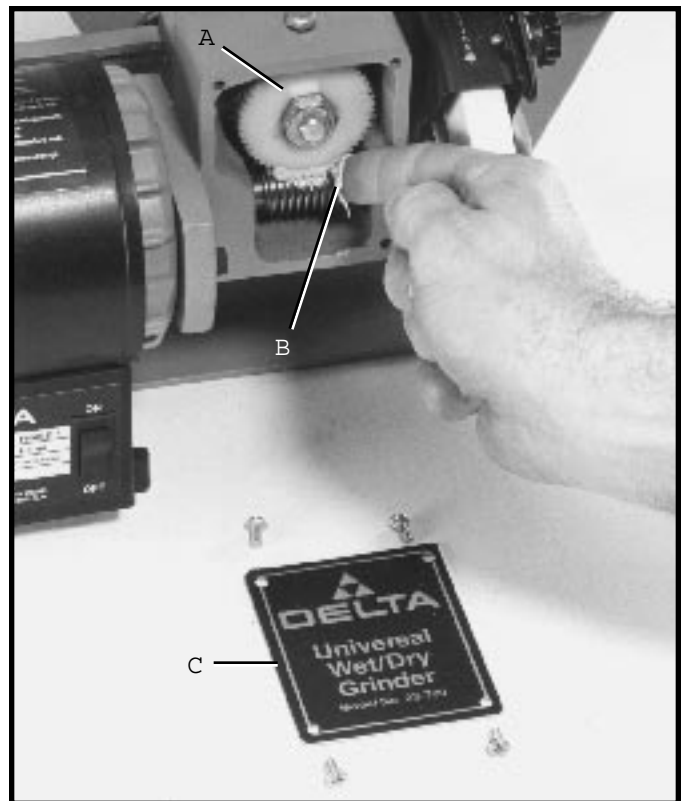

Fig. 23
To lubricate the worm gears (A) and (B) Fig. 23, remove the nameplate (C) and apply grease to the two gears (A) and (B) as shown.